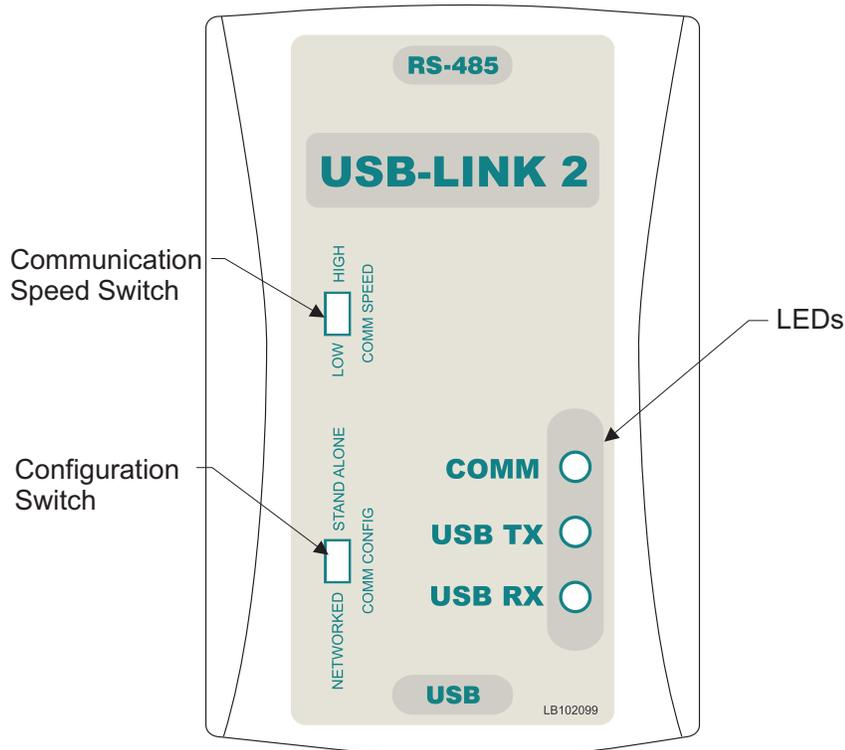

Figure 3: USB-Link 2 Configuration Switch, Communication Speed Switch, and LEDs
- Step 1:** Set your USB-Link 2’s configuration switch to Stand Alone or Network (**Figure 3, page 10**).
- Step 2:** Set your USB-Link 2’s communication speed switch to Low Speed or High Speed (**Figure 3, page 10**).
9. In the Network Configuration selection box, select the mode for the USB-Link 2 you are using. If using stand alone mode, select USB Link Stand Alone. If using network mode, select USB Link Network. The position of the slide switch on the USB-Link 2 must also be set to the mode you are using (See Figure 3, page 10 for help in setting this switch).
The configuration switch for stand alone or network mode is found to the left of the LEDs. See Figure 3 above. To set the configuration switch, insert a pen tip to move the switch up or down.
The communication speed switch for low or high speed is found to the left of the LEDs. See Figure 3 above. To set the communication speed switch, insert a pen tip to move the switch up or down.